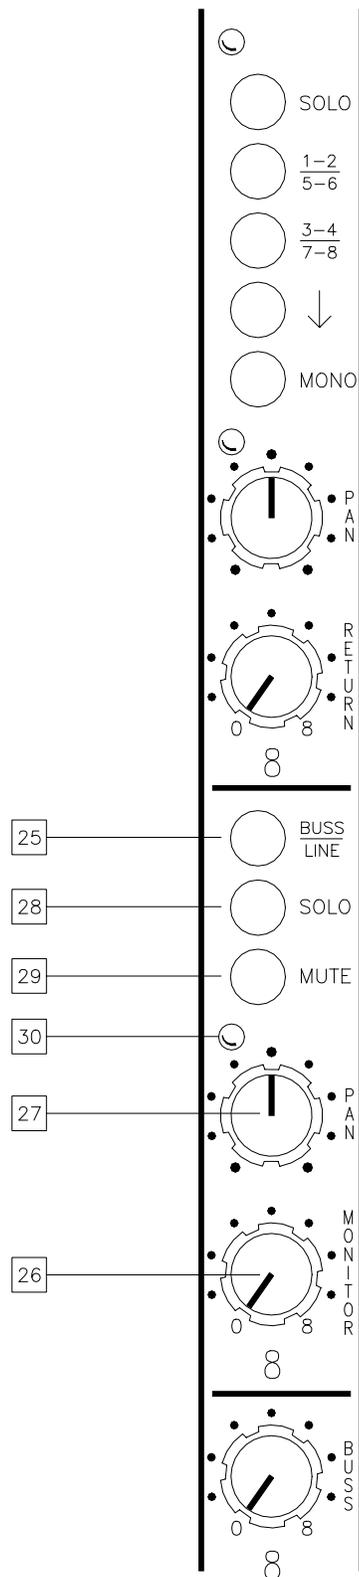

Figure 4. Monitor Channel
*Refer to Figure 4 for location of items 25 thru 30*